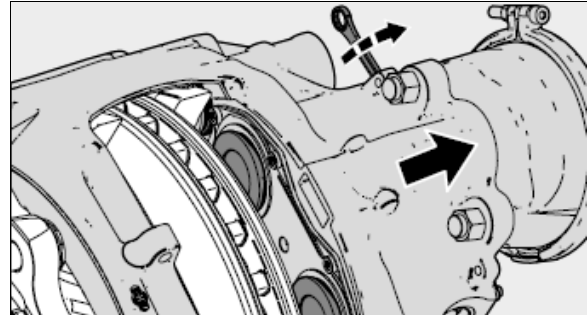

FIGURE 45: REWIND TAPPETS COMPLETELY AND PUSH CALIPER IN DIRECTION OF MIDDLE OF VIEW
4. Fully wind back the tappets (13) using a ring spanner and shear adapter (61) (see Figure 45).